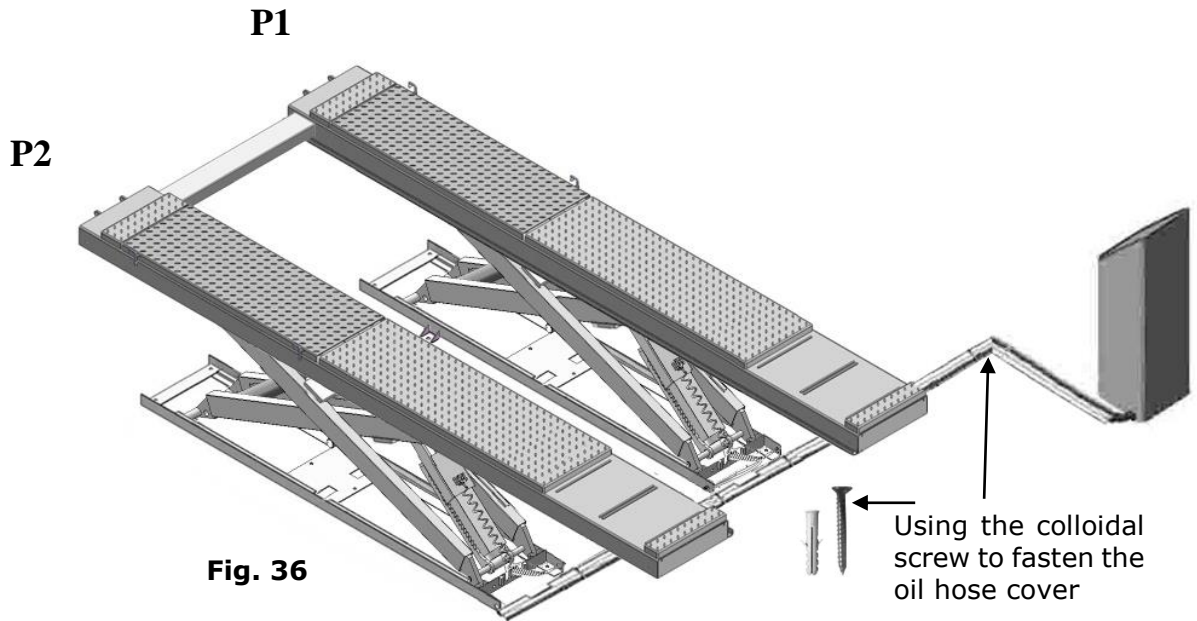

Fig. 36
1. Tidy up the oil hose and air line, cover the oil hose cover (See Fig. 36).